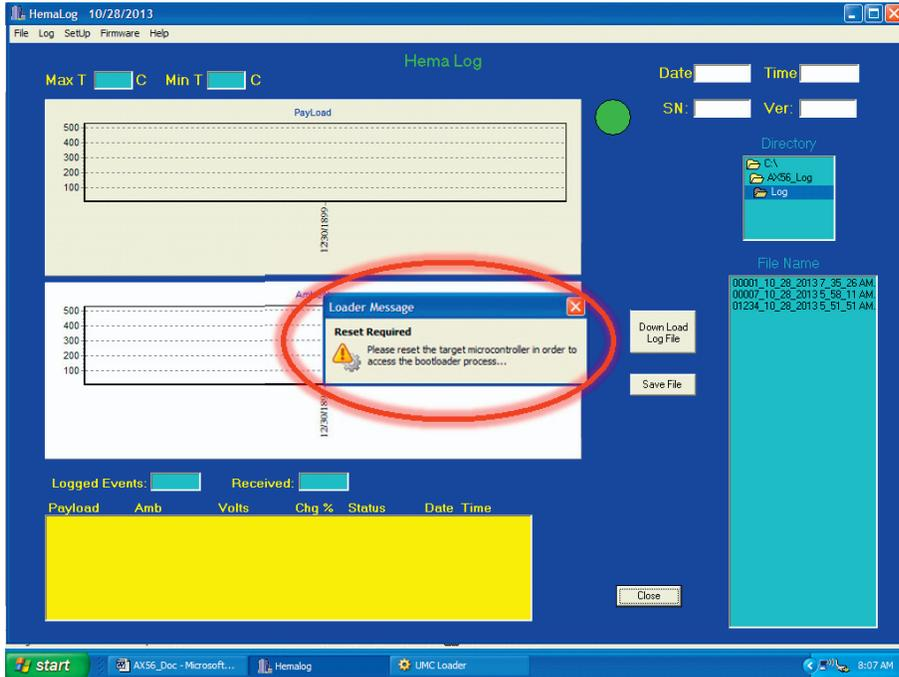

Figure 56. Reset Required Dialog Box
- When the **Reset Required** dialog box appears, quickly(within 2 or 3 seconds) disconnect and reconnect the internal battery connector. The firmware will then download (Figure 56).